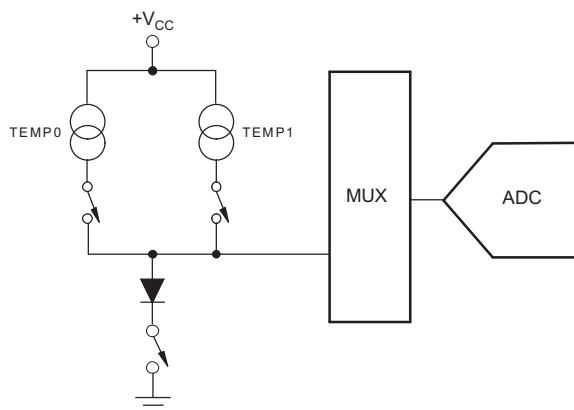

Figure 6. Temperature Measurement Functional Block Diagram
In some applications, such as battery recharging, a measurement of ambient temperature is required. The temperature measurement technique used in the TSC2046E relies on the characteristics of a semiconductor junction operating at a fixed current level. The forward diode voltage (V_{BE}) has a well-defined characteristic versus temperature. The ambient temperature can be predicted in applications by knowing the +25°C value of the V_{BE} voltage and then monitoring the delta of that voltage as the temperature changes. The TSC2046E offers two modes of operation. The first mode requires calibration at a known temperature, but only requires a single reading to predict the ambient temperature. A diode is used (turned on) during this measurement cycle. The voltage across the diode is connected through the MUX for digitizing the forward bias voltage by the ADC with an address of A2 = 0, A1 = 0, and A0 = 0 (see Table 1 and Figure 6 for details). This voltage is typically 600mV at +25°C with a 20μA current through the diode. The absolute value of this diode voltage can vary by a few millivolts. However, the temperature coefficient (TC) of this voltage is very consistent at -2.1mV/°C. During the final test of the end product, the diode voltage would be stored at a known room temperature, in memory, for calibration purposes by the user. The result is an equivalent temperature measurement resolution of 0.3°C/LSB (in 12-bit mode).